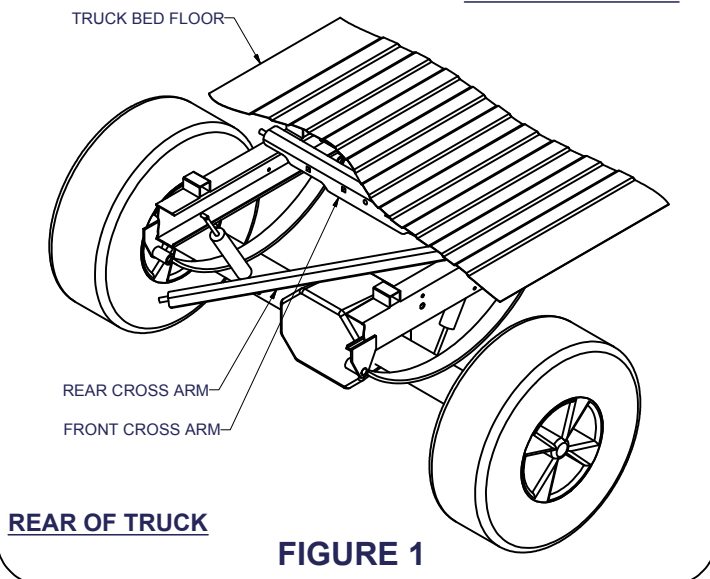

FIGURE 1
- 3) Install the front cross arm by sliding it between the truck bed and truck frame on the passenger side. Swing the driver's side into place as shown in **FIGURE 1**, then push the cross arm towards the front of truck. **(NOTE: HOLES IN THE CROSS ARM MUST BE FACING THE BACK END OF THE TRUCK)**